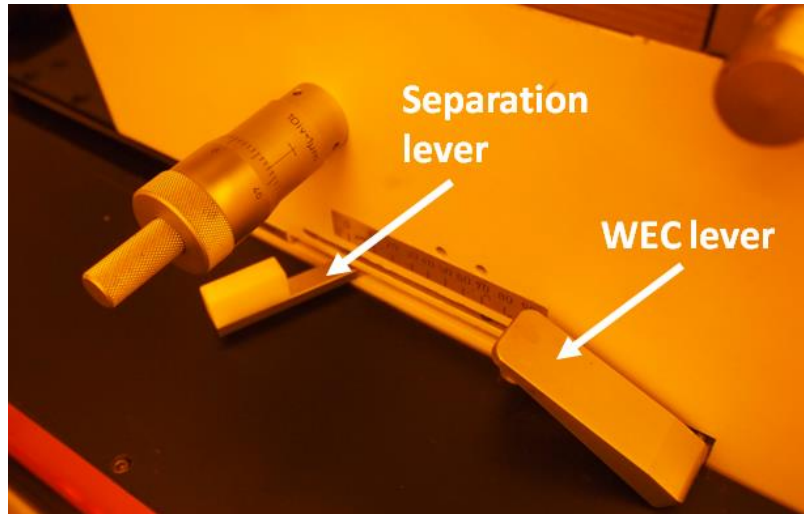

Figure 18 Chuck height manipulation levers.
- To alleviate this issue, very gently tap the WEC lever (Please see **Figure 18**).